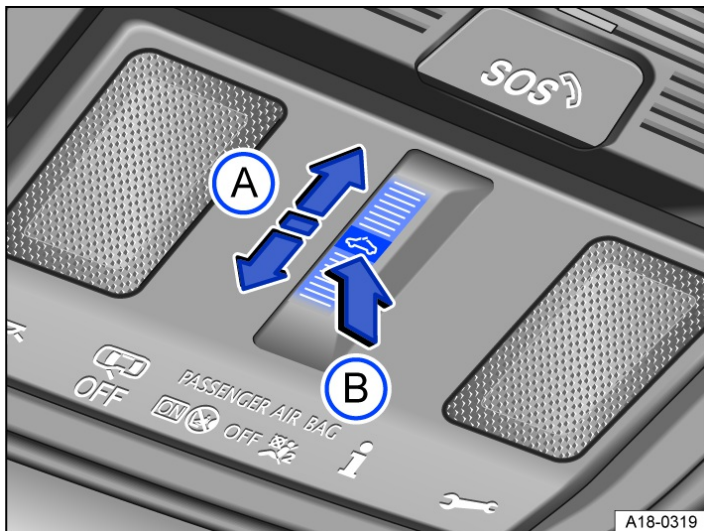

Fig. 1 In the roof: touch control for the glass roof.
- One-touch function: swipe backwards over the  touch control → Fig. 1 (A).
- One-touch function: swipe forwards over the  touch control → Fig. 1 (A).
1. One-touch operation: briefly tap the middle of the  button → Fig. 1 (B).
1. One-touch function: swipe forwards over the  touch control → Fig. 1 (A).